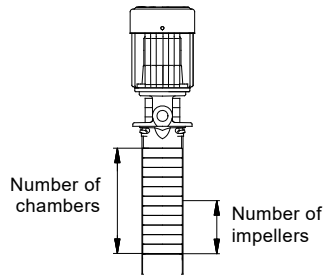

Fig. 11 Number of chambers / impellers
* See fig. 11.
Number of chambers, see fig. 11
Number of impellers, see fig. 11